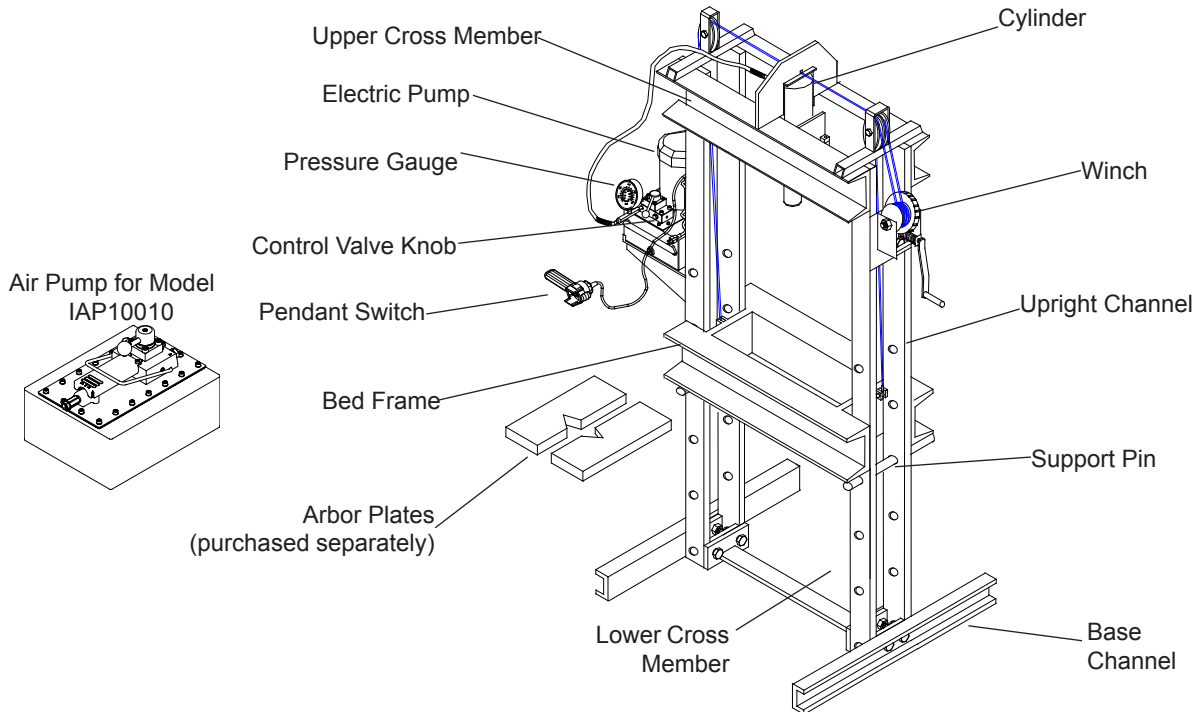

Figure 2 - Components for 100 Ton Press (Model IEP10010)
2. Install the winch assembly to the press using 3 bolts, washers and nuts (ref. Figs 2 & 3).